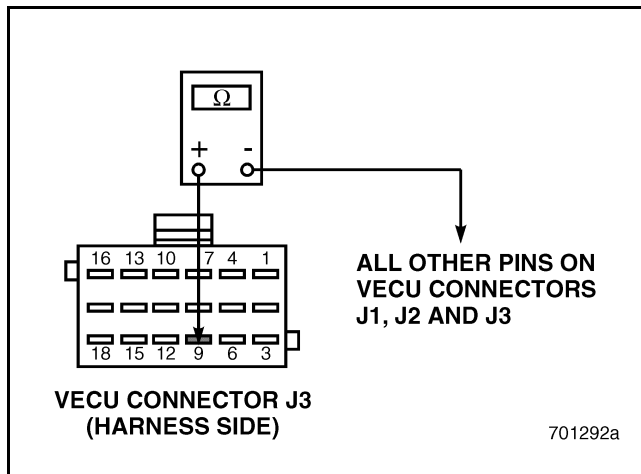

Figure 583
3. Check for continuity between VECU connector J3 pin 9 and all other pins on VECU connectors J1, J2 and J3 (see Figure 583).